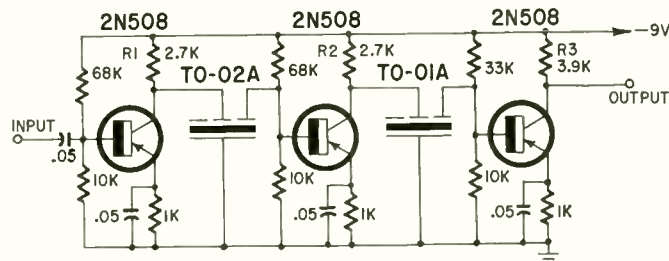

Fig. 5—A 3-stage common-emitter amplifier with 2 overtone radial resonator filters used as coupling elements.
To investigate the possibilities of Transfilters, I assembled the circuits illustrated in the photos. The first is a three stage common-emitter amplifier with TO-02A overtone radial resonator filters inserted between stages as shown in Fig. 5.
*Breadboard arrangement of unit shown in Fig. 5.*